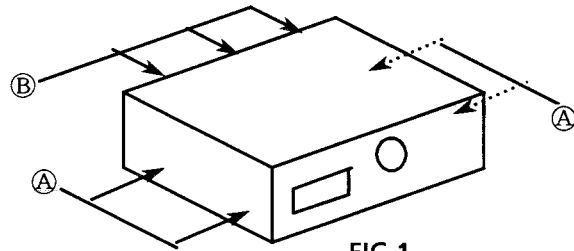

FIG.1
1. Remove 4 screws (A) on both sides of the top cover and 3 screws (B) on the rear side.(FIG.1)